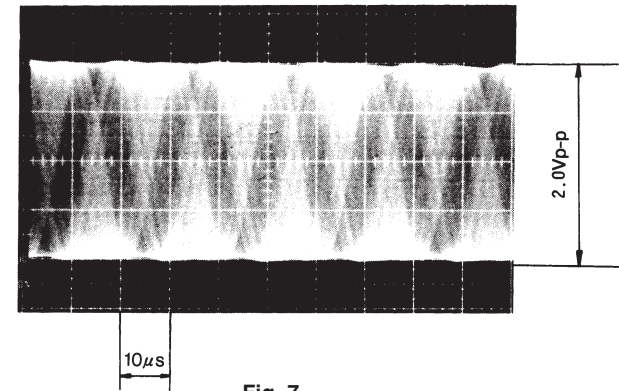

Fig. 7
- ⑥ Adjust the VR-2 volume again so that the sine wave amplitude is between 1.9 Vp-p and 2.1 Vp-p as shown in Fig. 7. Fig. 7 shows the ideally adjusted condition.